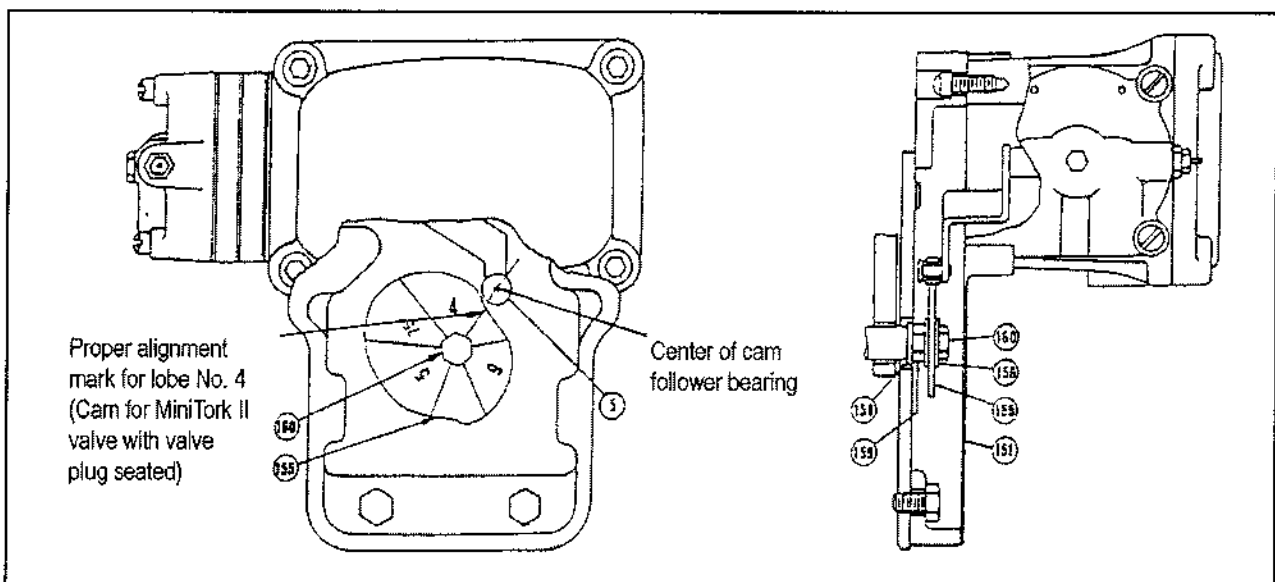

Figure E3 - Cam follower bearing
Place the cam (155) on the bushing (159) so that the identification number of the lobe required is facing away when the cam bushing is assembled (see figure E3).
Place tongued lock washer (158) on the screw end and mount on the MiniTork II valve. Turn the cam in order to line up the origin mark of the active lobe with the center of the bearing as indicated in figure E3.
- Rotate the cam in order to align the origin mark of the proper lobe with the center of cam follower bearing as indicated in figure E3. Tighten screw (160) in order to maintain the cam position towards the cam follower.
- 2) Rotate the cam in order to align proper lobe origin mark (see code) with center of the cam follower roll (see figure E3).